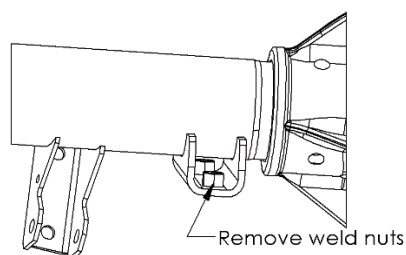

Figure 21. Remove weld nuts
- Remove the front weld nuts from both of the sway bar mounts. See Figure 21